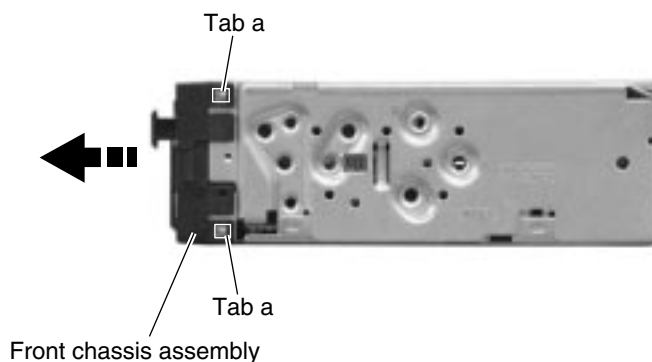

Fig.2
■ Removing the front chassis assembly (See Fig.2 and 3)